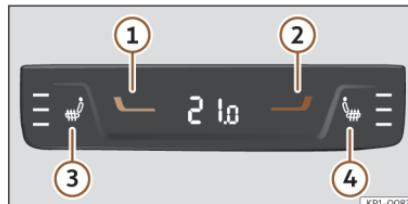

Fig. 104 In the centre console, rear section: controls for the rear seats.
- Press buttons **①** and **②** **>>> Fig. 104** to adjust the temperature of the rear zone.
- Tap buttons ③ and ④ on the rear seat controls located at the back of the centre console >>> **Fig. 104.**